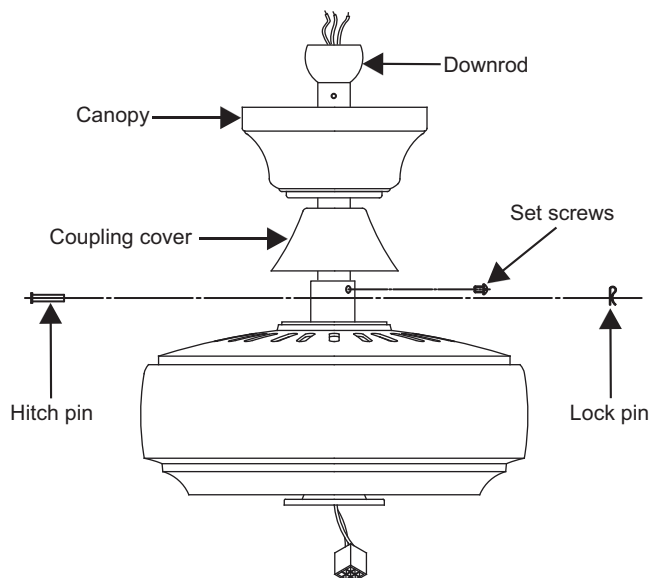

Figure 6
**Step 4.** Route wires exiting from the top of the fan motor through the canopy, coupling cover and then through the ball/downrod. (Fig. 6)
**Step 5.** Align the holes at the bottom of the downrod with the holes in the collar on top of the motor housing (Fig.6). Carefully insert the hitch pin through the holes in the collar and downrod. Be careful not to jam the pin against the wiring inside the downrod. Insert the locking pin through the hole near the end of the hitch pin until it snaps into its locked position, as noted in the circle inset of Fig. 6.
**Step 6.** Tighten two set screws on top of the fan motor firmly. (Fig. 6)